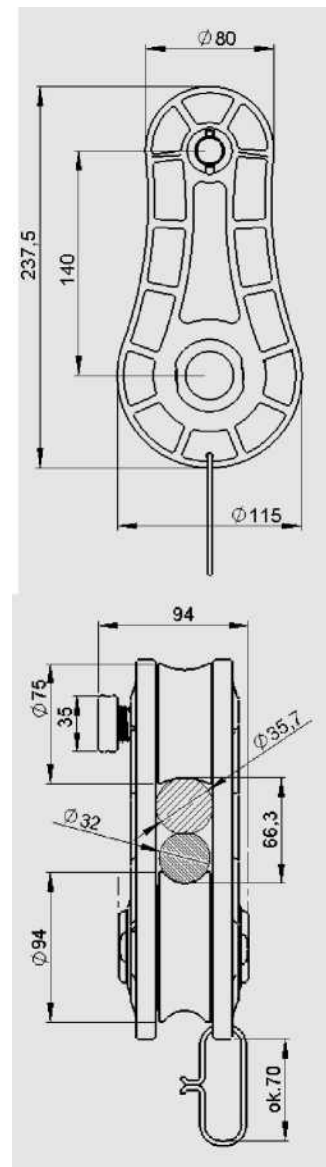

**Figure 3. Rope blocks TU404-TU407**
- Large equipment **Figure 3**